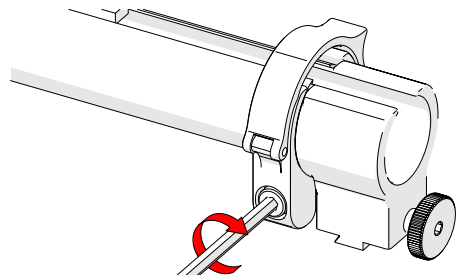

Fig. 95 - Tighten clamp screw
4. Tighten the clamp screw (*Fig. 95*).